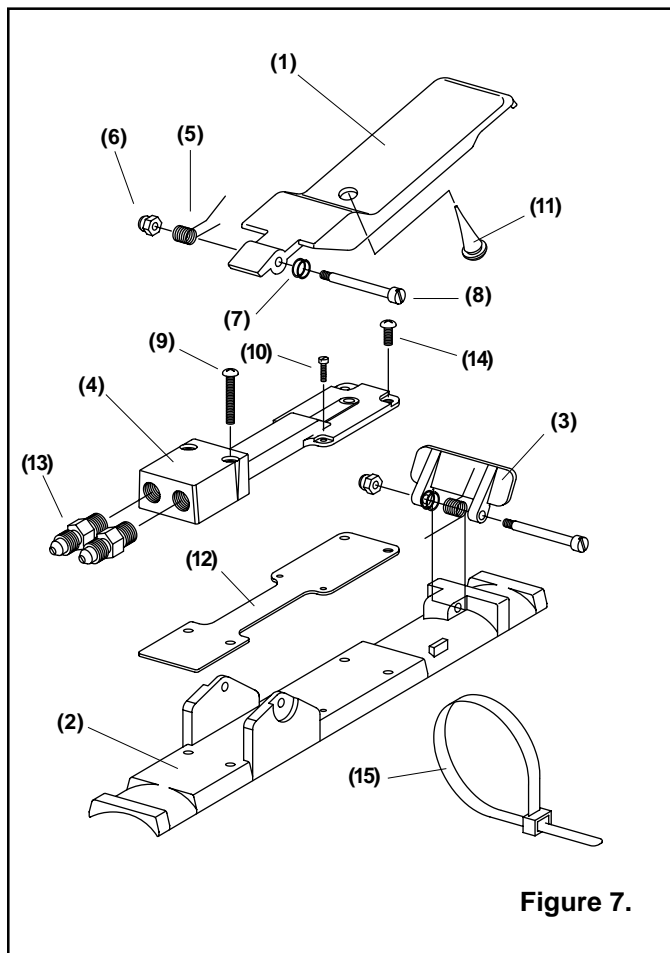

Figure 7.
7.0 REPLACEMENT PARTS, FIGURE 7